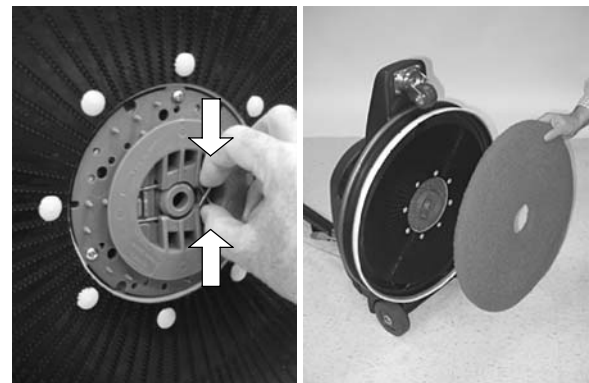

FIG. 2
4. Remove the plastic centerlock from pad driver by squeezing the retainer clip on the centerlock. Position the pad centered on the pad driver and replace the centerlock securely (Figure 2).